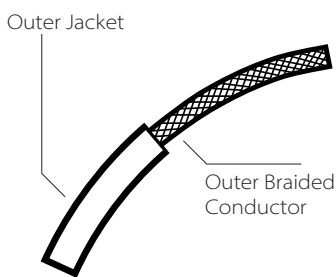
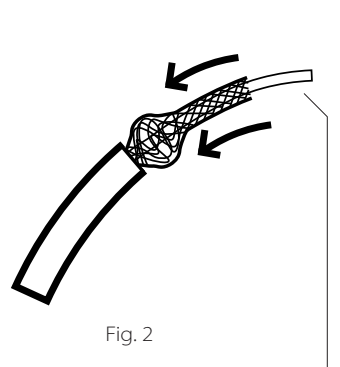
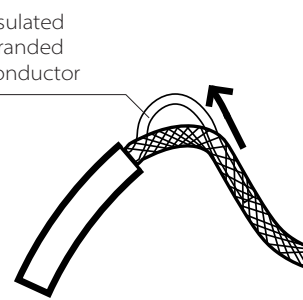

Fig. 1
Fig. 2
Fig. 3
4. Feed the fixture wires through the main tapered stem section (E), then through the appropriate number of straight stem sections (F) for the desired height and screw them together and into the fixture (D).
5. Feed the fixture wires through the Hang Straight stem (H) and into the canopy (G). Screw the Hang Straight stem (H) onto the assembled stem sections and fixture.
7. Carefully place connections and driver in the canopy (G).
8. Attach canopy (G) to mounting plate (B) with screws (J).
9. Place the slotted shades onto the luminaires (Fig.1), there will be a "Click" as the magnet engages.
1. Shut off power to the outlet box (A).
2. Secure the mounting plate (B) to the ceiling with wall anchors and appropriate screws (C), covering the outlet box (A).
3. Determine the height at which the two half fixtures (D) are to be hung.
4. Feed the fixture wires through the main tapered stem section (E), then through the appropriate number of straight stem sections (F) for the desired height and screw them together, into the fixture (D).
6. Assemble the two half fixtures (D), by sliding the arm ends into the open luminaire heads, and fastening with the high contrast attachment screw (Fig.1)
8. Carefully place connections and driver in the canopy (G).
9. Attach canopy (G) to mounting plate (B) with screws (J).
10. Place the slotted shades onto the matching luminaires (Fig.2 & Fig.3), there will be a "Click" as the magnet engages.
1. Make a 1" slice along the length of the cord's outer jacket (Fig. 1).
2. Carefully strip the outer jacket of the cord and keep the outer braided conductors intact (Fig. 1).
3. Slide the outer braided conductor back to create a bulge and reveal the inner stranded conductor (Fig. 2).
4. Bend the cord to create an opening through the bunched-up portion of outer braided conductor, then pull out the inner stranded conductor (Fig. 3)